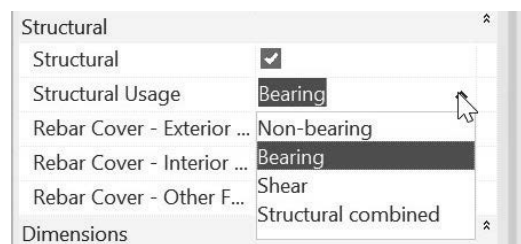

Figure 7-17
- You can set the wall's structural properties as **Non-bearing**, **Bearing**, **Shear**, or **Structural combined**, as shown in Figure 7-17.